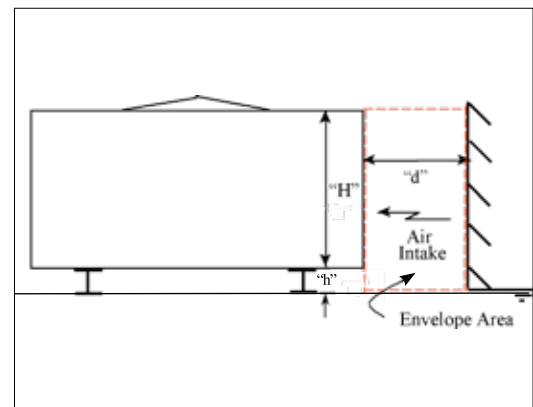

Figure 3b. Section View of Unit Adjacent to Wall
**NOTE:** Refer to **Figure 3b** on **Page 3** for location of "d" and "h".